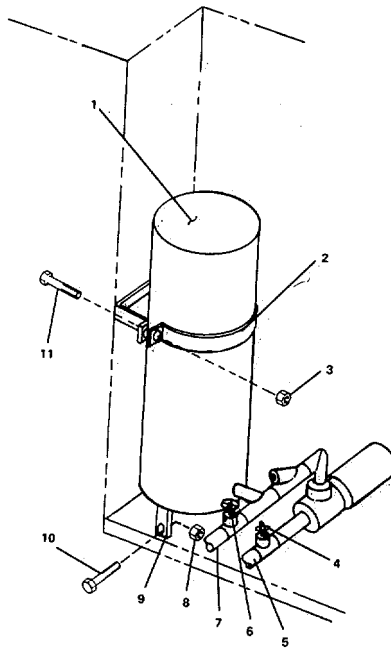

FIGURE 3-207. Repair Hydropneumatic Tank.
- (1) Remove warning tag and turn on electrical power at ship services switchboard.
- (2) Operate system; refer to TM 55-1905-223-10.
- (3) Open inlet valve (1) and outlet valve (5).
- (4) Check for leaks in system and reseal connection as necessary.
**3-219. Replace/Repair Hydropneumatic Tank. (Figure 3-207)**